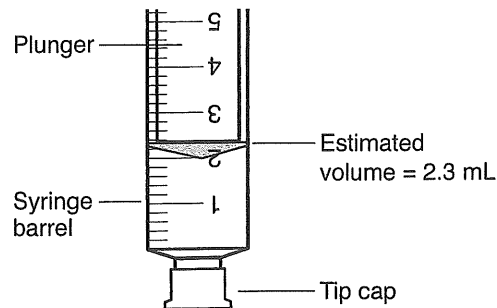

Figure 4.
10. Measure and record the volume of air trapped in the syringe at this bottle pressure. *Note:* Measure the volume at the black rubber seal, not at the inverted V-like projection (see Figure 4). The syringe barrel has major scale divisions marked every milliliter, and minor scale divisions every 0.2 mL. The volume should be estimated to within ± 0.1 mL.